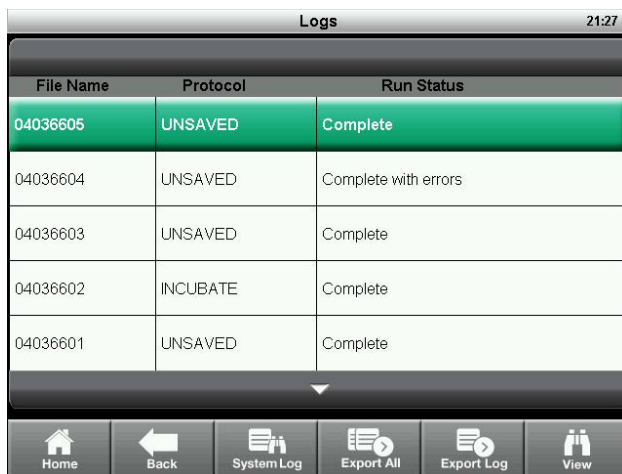

Fig. 25. Self-Test function in progress.
3. Touch **Start** (Figure 25).